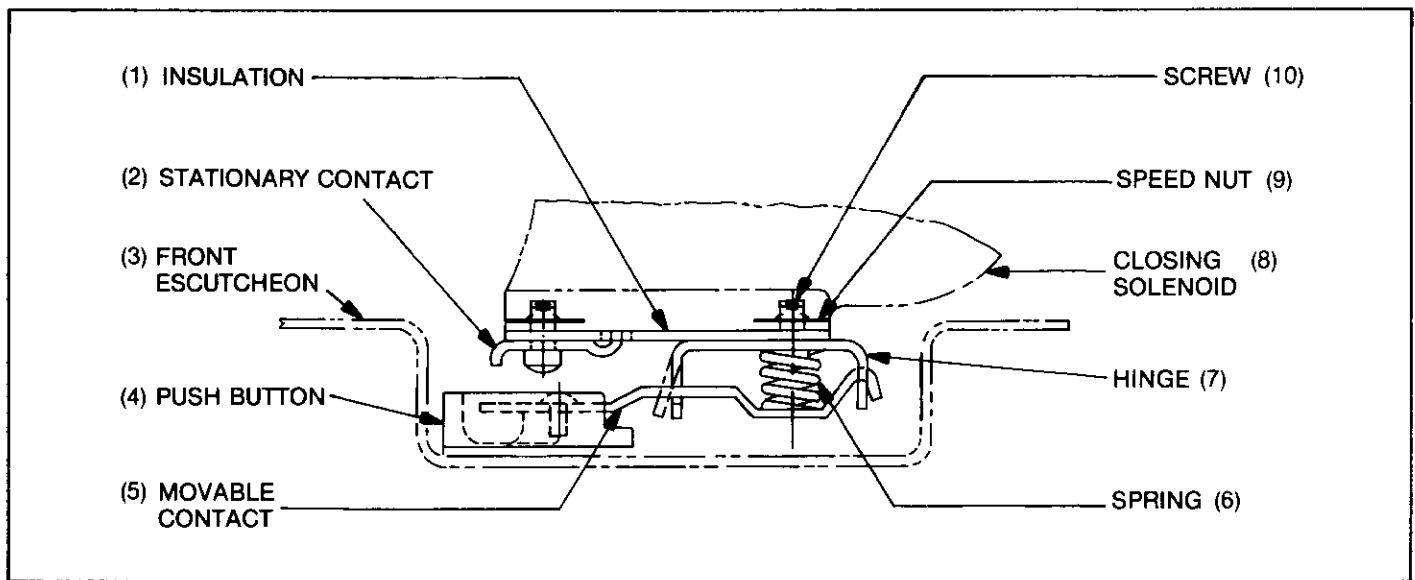

Fig. 10. Closing switch (top view)
Closing Switch (Fig. 10)
The closing switch is mounted on the upper flange of the closing solenoid coil. A hole in the escutcheon (3), Fig. 10, permits access to the switch button (4). When the button is pressed, movable contact (5) deflects and impinges upon stationary contact (2). This energizes the "K" relay coil which seals itself in, and, in turn, energizes the closing solenoid.
1. Remove escutcheon (3), Fig. 10.
3. Deflect the left end of hinge (7) to the left so that the movable contact (5) may be disengaged from the switch assembly.
4. Removal of the two screws (10) from speed nuts (9) completes the disassembly of the switch.
5. Reassembly with new parts is a matter of reversing the described procedure. In reassembling, be sure the tab on the left end of hinge (7) is bent to the right far enough to avoid any possibility that movable contact (5) might become free of the assembly.